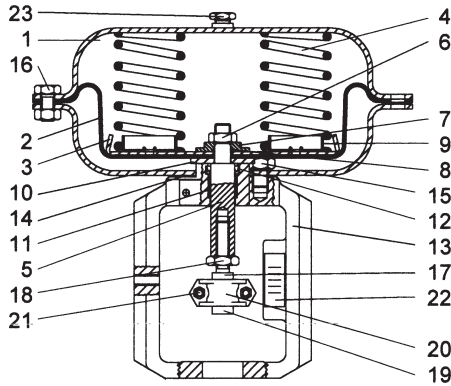

Fig. 1
3.1 Fitting Actuator to Valve (Ref. to fig. 1, 2, 3 & 4)